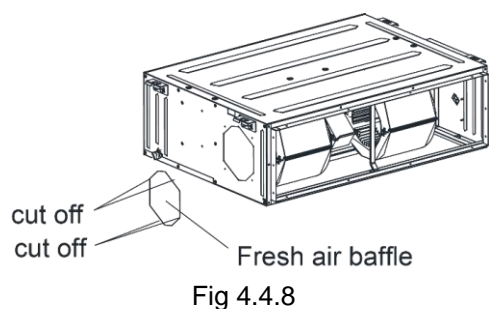

Fig 4.4.8
- (1) When the fresh air pipe is needed to be connected, cut the fresh air baffle as Fig 4.4.8.